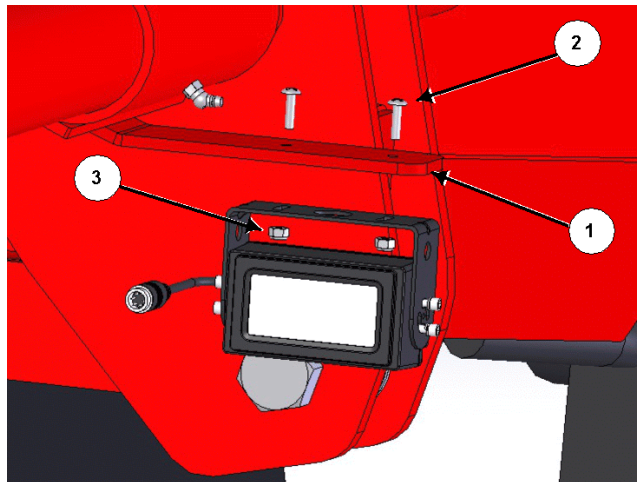

Figure 4: Install side rack camera
- f. Line up the holes on the camera mount with the holes on the camera mount plate (1), and attach with 2 #10-24 X $\frac{3}{4}$ " screws (2) and 10-24 nylock nuts (3), see *Figure 4*.